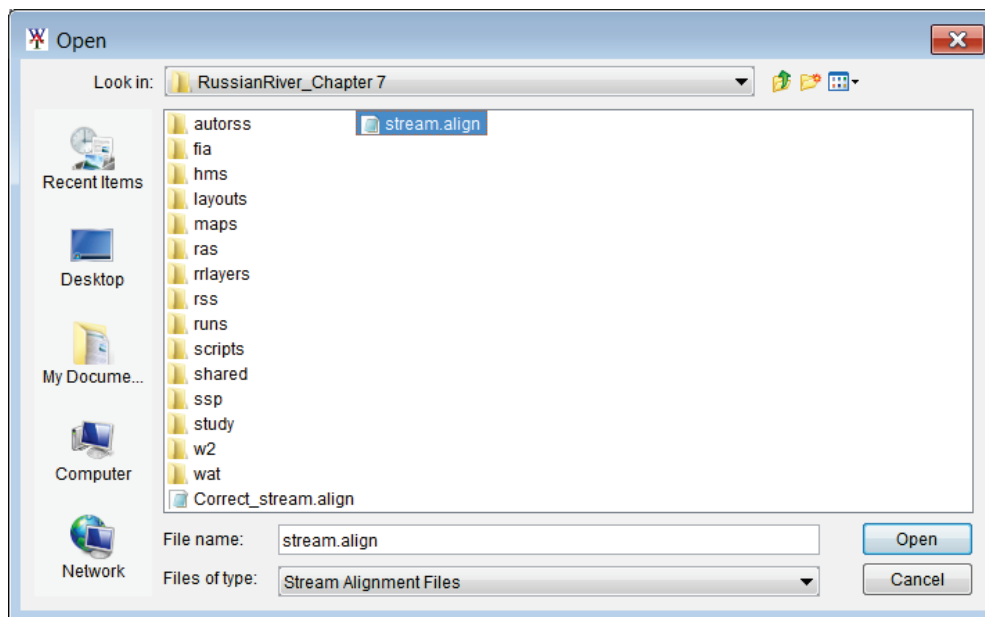

Figure F.13 Open Browser
2. A **Confirm Import** message window will open letting the user know that this command will replace the contents of the HEC-WAT *stream.align* file. Click **yes**, an **Open Browser** will appear (Figure F.13). Browse to an HEC-WAT study, click on the *stream.align* file (which appears in the **File name** box).
3. Click **Open**, the **Open Browser** will close (Figure F.13) and the stream alignment from the selected HEC-WAT study is displayed.